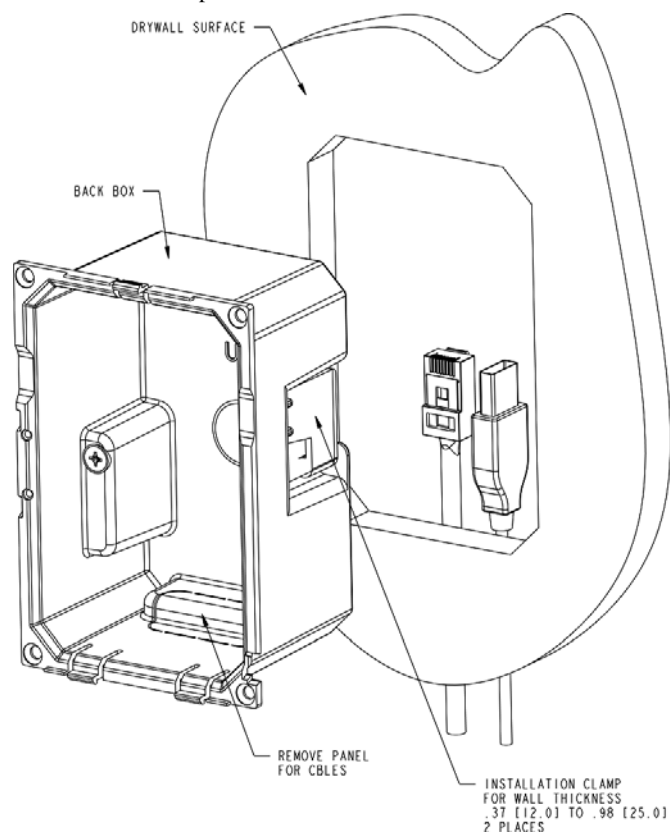

FIG. 56 MXD-430 Backbox Installation - Drywall Surface
- FIG. 56 provides an illustration of the MXD-430 mounting into a drywall surface: